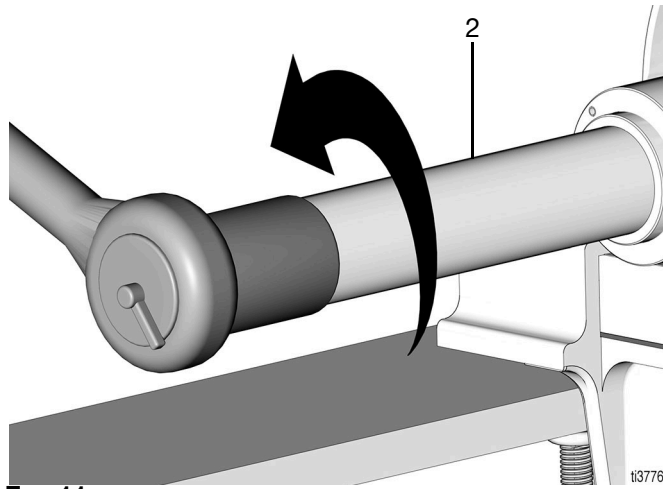

FIG. 11
13. Using a 1-13/16 in. socket, remove the pump cylinder (2) (FIG. 11).